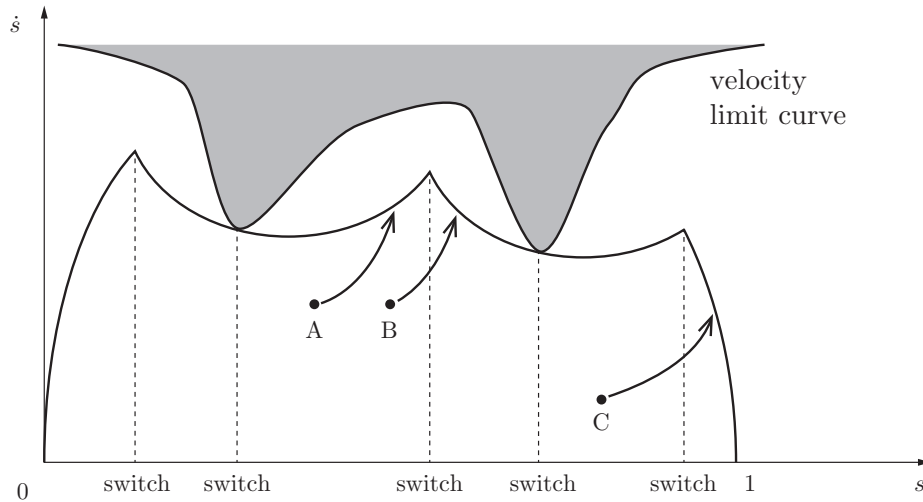

Figure 9.3: A time-optimal time scaling.
- For the time-optimal time scaling in Figure 9.3, approximately draw the feasible motion cone at every point on the curve where we know the angle of both the upper and lower bounds of the cone. (Assume the robot can hold itself stationary at any configuration $s \in [0, 1]$.)